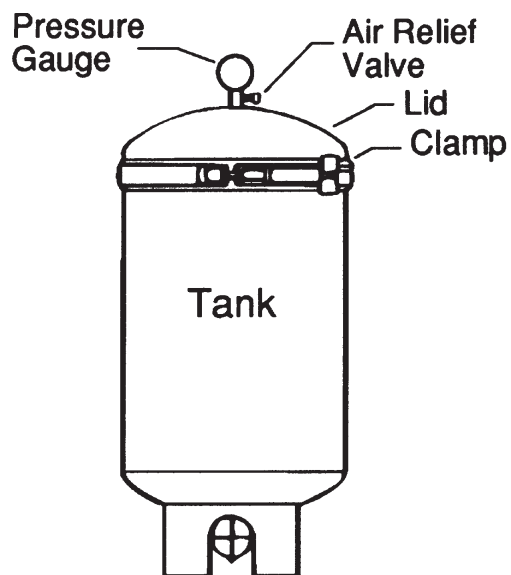

Figure 1.
2. Open the air relief valve. (See Figure 1.) and wait for tank water to drain into pool.